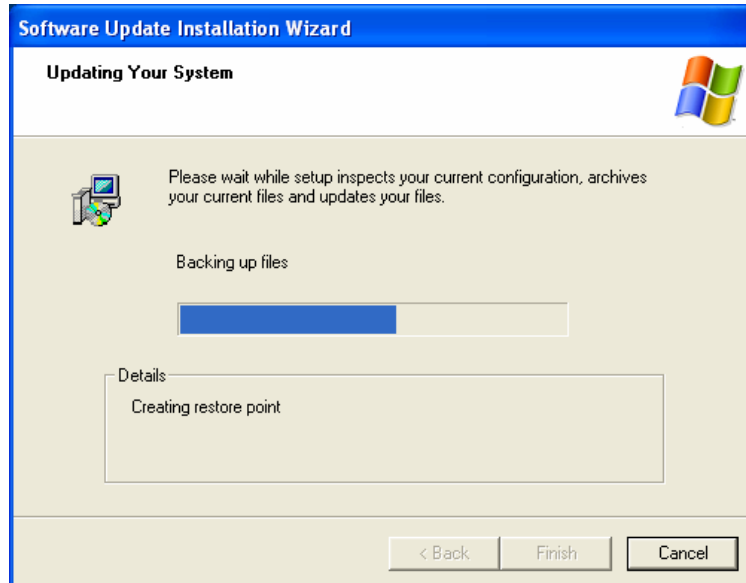

Figure 7-20: Audio Driver Software Configuration
Step 5: InstallShield starts to install the new software as shown in **Figure 7-20**.